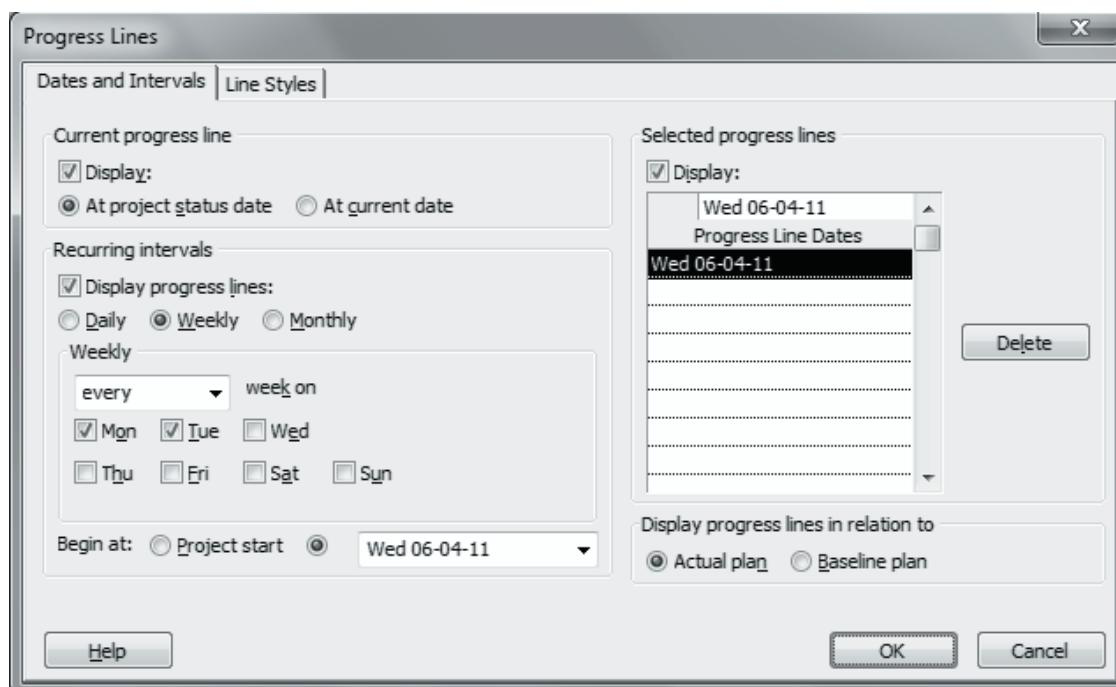

Figure 11.9: Progress Lines Dialog Box
1. Open the project in the **Gantt Chart** view and right-click the chart in **Gantt Chart** view and select **Progress Lines** to display the **Progress Lines** dialog box to set up progress lines at particular dates as shown in figure 11.9.